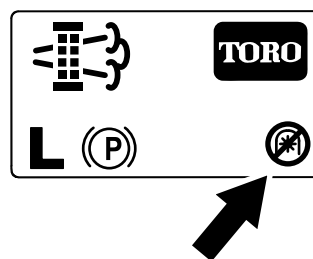

Figure 51
**Note:** The Home screen displays the PTO disabled Icon (Figure 51).
**Note:** The Home screen displays the PTO disabled icon; refer to Figure 51 in Parked Regeneration Messages \(page 38\).